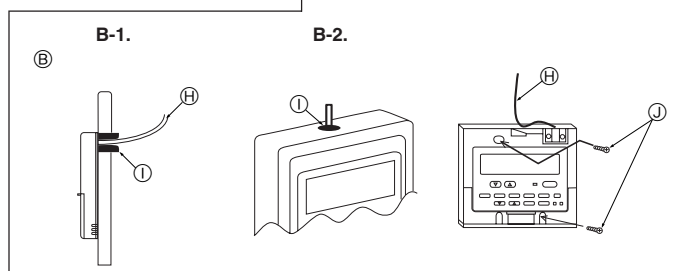

Fig. 6-3
- ④ Remote controller profile
- ⑤ Required clearances surrounding the remote controller
- ⑥ Installation pitch
(2) Seal the service entrance for the remote controller cord with putty to prevent possible invasion of dew drops, water, cockroaches or worms. (Fig. 6-3)
④ For installation in the switch box:
⑤ For direct installation on the wall select one of the following:
(3) For direct installation on the wall
- ④ Wall
- ⑤ Conduit
- ⑥ Lock nut